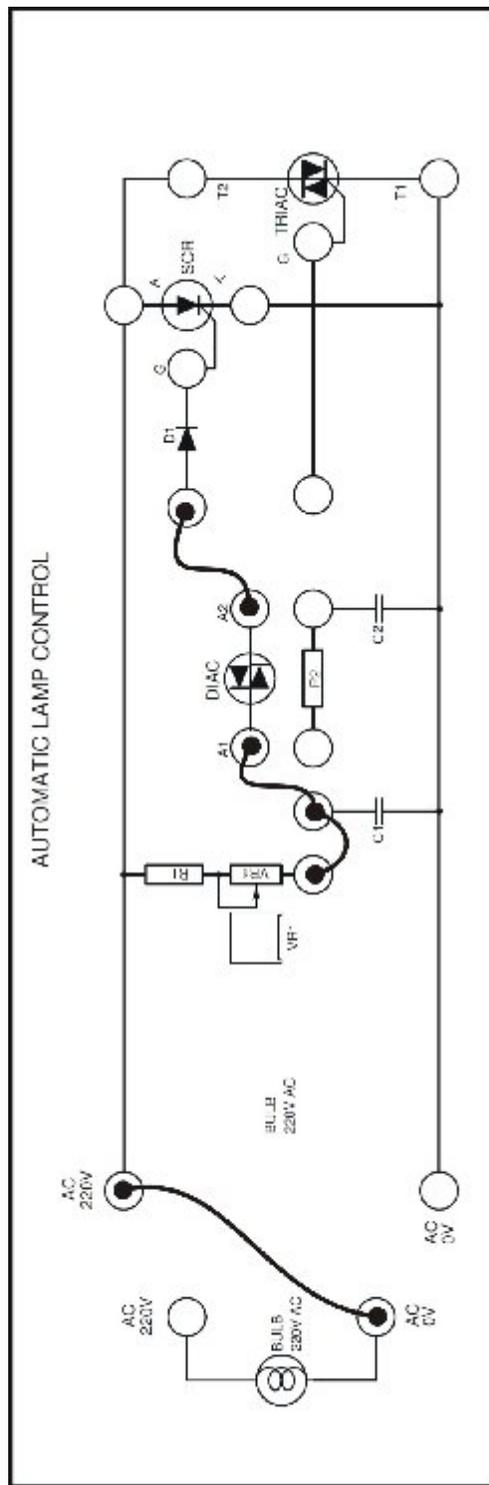

Fig 12.7
The circuit of Fig. 12-7 is a lamp dimming control circuit used in this experiment. A brief description is made as follows:
The DIAC is a useful trigger device for TRIAC power control applications. If the applied voltage across two terminals reaches the breakover voltage of DIAC, the DIAC is thus turned on. In the circuit of Fig. 12-7, when line voltage is applied, the capacitor C1 charges through R1 and VR1 and builds a sufficient voltage to trigger SCR or TRIAC to switch on. By adjusting VR1, the conduction angle of SCR or TRIAC can be changed to achieve the function of lamp dimming control.
2. Make connection as shown in fig 12-7. Now locate these components on the Module and complete the circuit diagram by connecting the components using the leads with